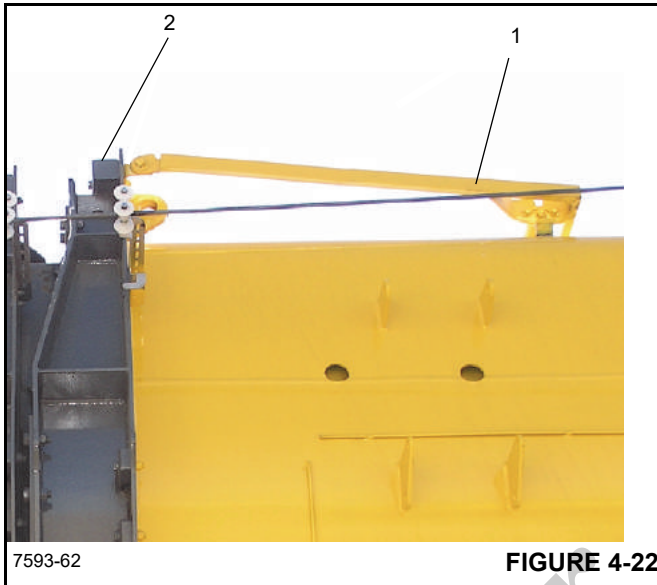

FIGURE 4-22
1. Remove the lynch pins and rope grab (1) (Figure 4-22) assembly from the top front of the base section.
2. Remove the cable protection strip (2) and two holder assemblies from the top front of the higher of the two flanges in the front of the base section.